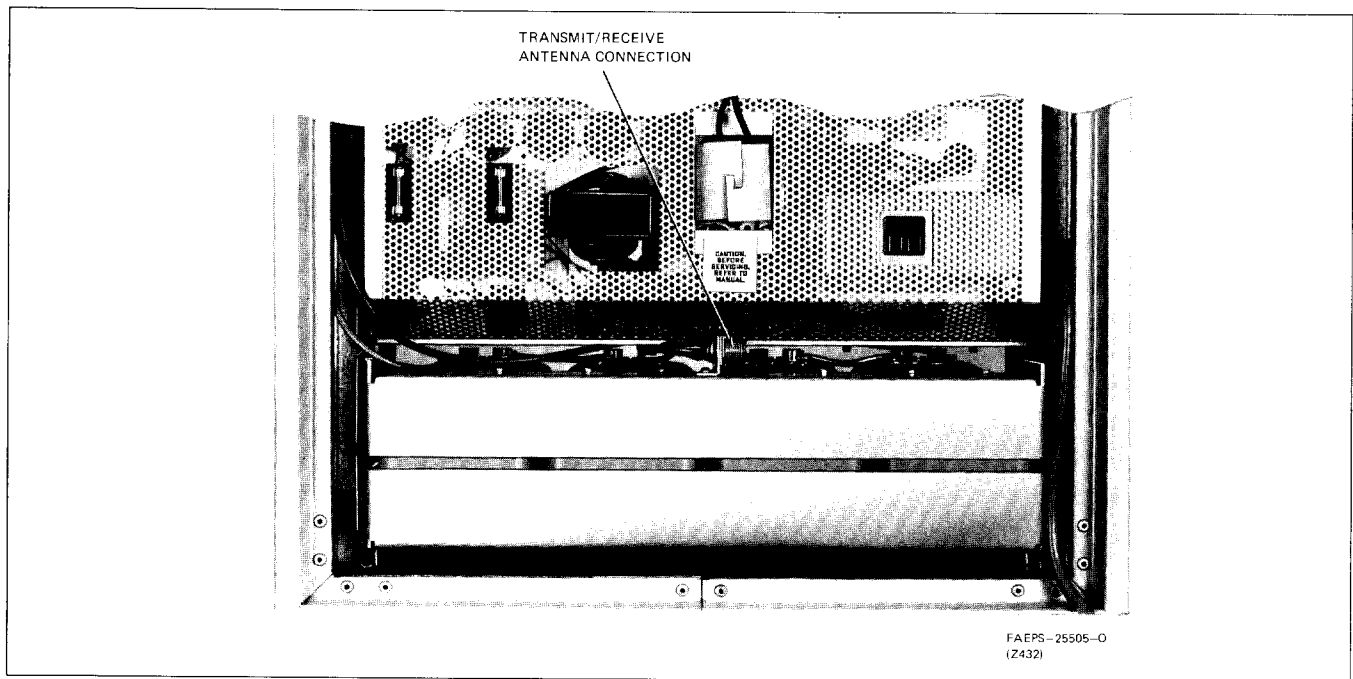

Figure 1. Antenna Connection Locations
7.1.3 For base stations, the antenna coaxial cable connects to the antenna relay with a UHF type connector. For repeater stations without an optional duplexer, two antennas are required, one for the transmitter and one for the receiver. The antenna coaxial cables connect to the UHF connectors on the TKN6885A Adapter Cable. This adapter cable is added to stations without duplexers. For repeater stations with an optional factory installed duplexer, the antenna's coaxial cable connects to the duplexer with a type UHF connector. (Refer to Figure 1.)
Step 2. Connect the antenna cable(s) as shown in Figure 1 and discussed in paragraph 7.1.3.